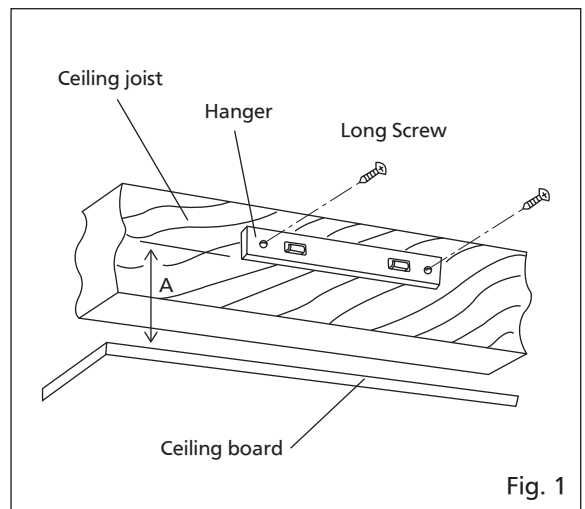

Fig. 1
2. Fix the hanger to the ceiling joist. Keep distance "A" between the hanger and ceiling board (table 1). Use two long screws to fasten the hanger. (Fig.1)